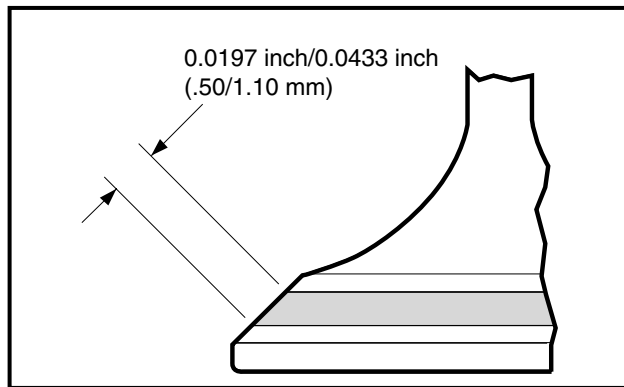

Figure 13-24 Check Mark on Valve Head
5. Pull the valve out, and check the mark on the valve head. It must be 0.0197 - 0.0433 inch (.50 - 1.10 mm) in width, and even all the way around the seat and valve (**Figure 13-24, Page 13-15**)